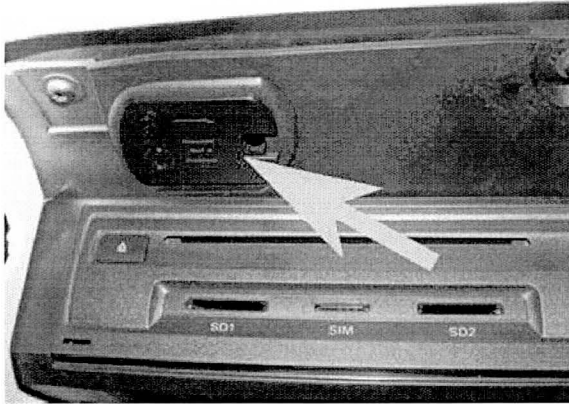

Figure 2
- Locate the key reader, which is in the glovebox, and remove the key reader plastic cover (Figure 2)